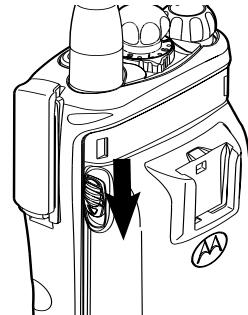
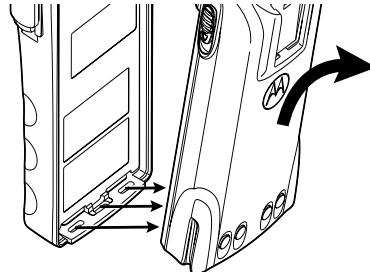

Figure 20. Step 1, Removing the Battery
Figure 21. Step 2, Removing the Battery
2. Remove the battery completely from the radio (see Figure 20 and Figure 21 on page 40).